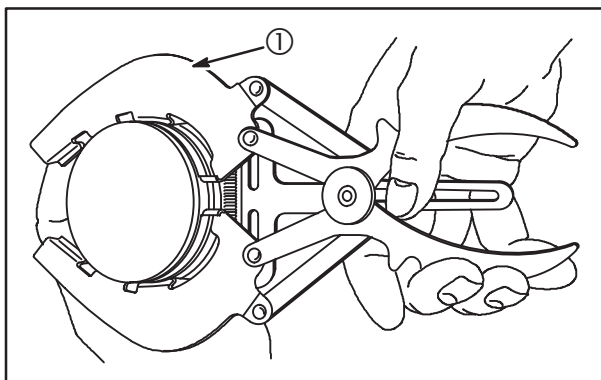

Fig. 1
1. Remove piston rings using Ring Expander #19340 (1), **Fig. 1**.